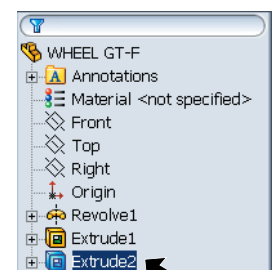

Fig. 16
Step 2. Click **Extrude2** in the Feature Manager (left panel) to select the hole in the wheel, **Fig. 16**.